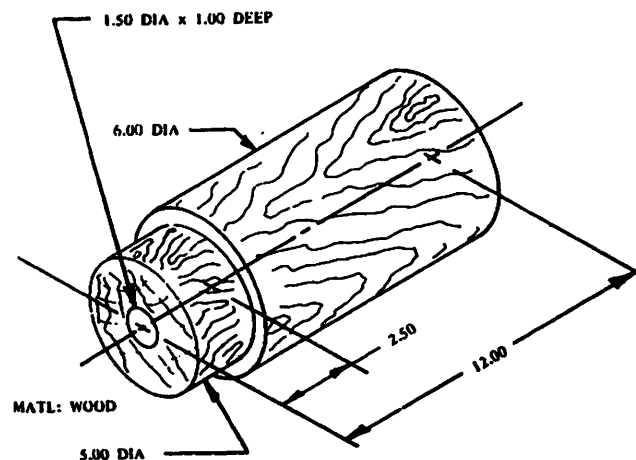

Figure 7-1. Ram-end Plate Removal
- h. With a wooden ram similar to that shown in Figure 7-1, and using light hammer taps, drive the end plate from the outboard end. Care should be taken not to scar the walls of the fuel tank or break an end plate.